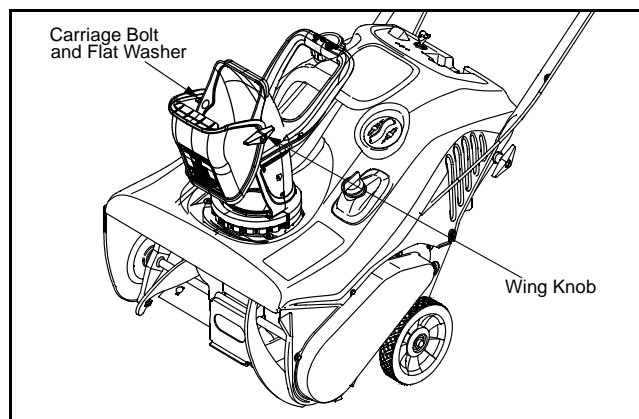

Figure 2
- Remove the wing knob, flat washer and carriage bolt from the lower chute. See Figure 2.
- Pivot the upper chute upward **over the lip on the lower chute** so that there is **NO** gap between the upper chute and the lower chute. See Figure 2.